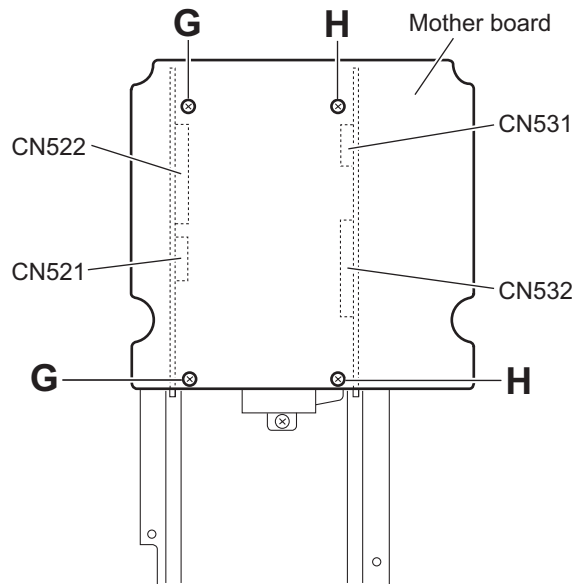

Fig.7
3.3.5 Removing the mother board (See Fig.7)